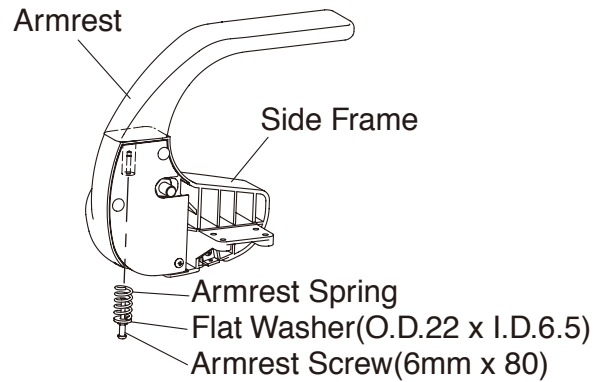

Figure 4
7) Attach each armrest to side frame as shown in Figure 4 (it may be necessary to lightly lubricate armrest shaft with silicone lube).